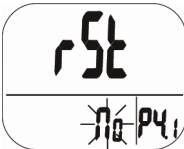

Fig. 17: no reset
- Press SET to enter P4.1 mode with blinking “No” (default), see Fig. 17, so that no reset will be done.